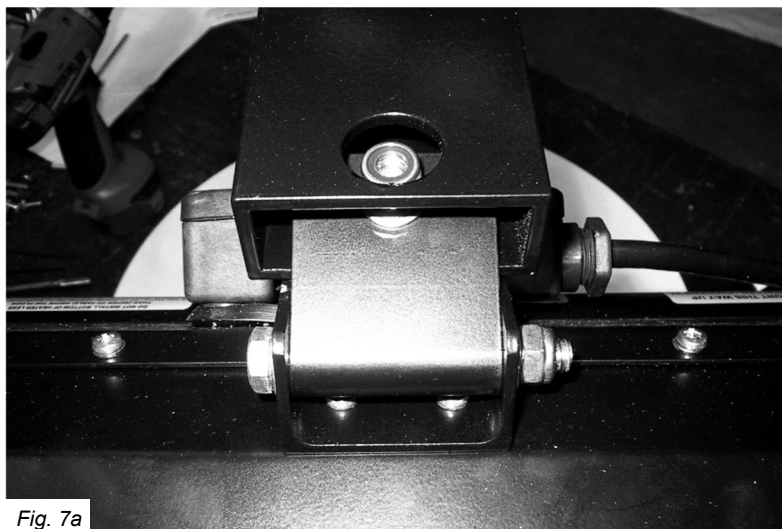
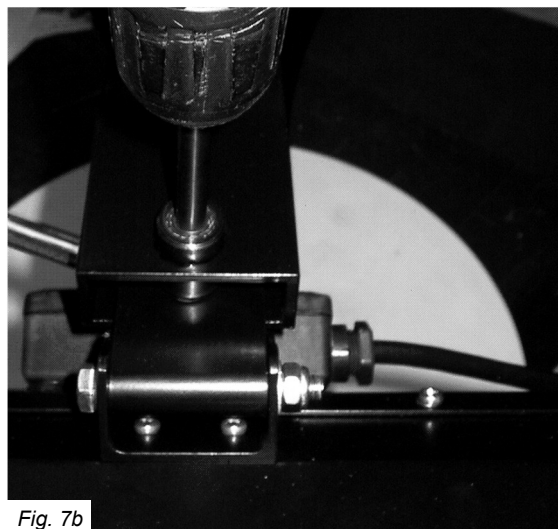

Fig. 7a
Fig. 7b
6. Fit a Alpha H1 heater to a curved tube by placing the middle bracket of the heater into the tube opening and push an M8 screw through the underside of the tube. Place a washer and an M8 Nyloc nut on the end of the screw (Fig. 7a) taking care not to drop the nut down the tube. Using a 13mm A/F socket, tighten the nut fully by gaining access through the hole in the top of the tube as shown in Fig. 7b. Repeat with the other two heaters.